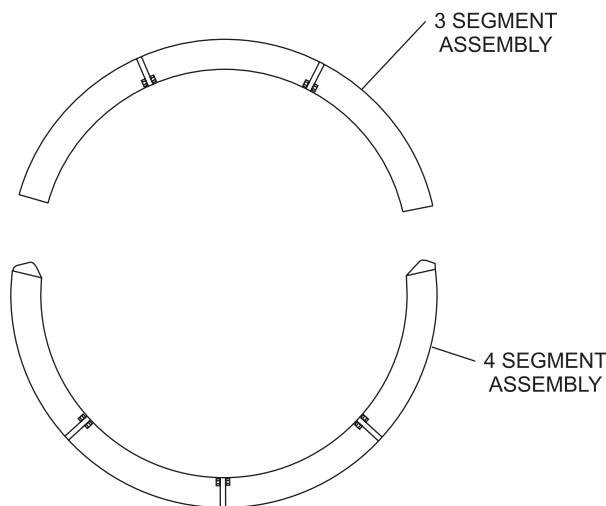

Figure 1
Installation (Refer to Figures 1, 2, 3 & 4)
2. Assemble two pin wheel assemblies; one consisting of four segments and the other consisting of three segments. Refer to *Figures 1 & 2*.